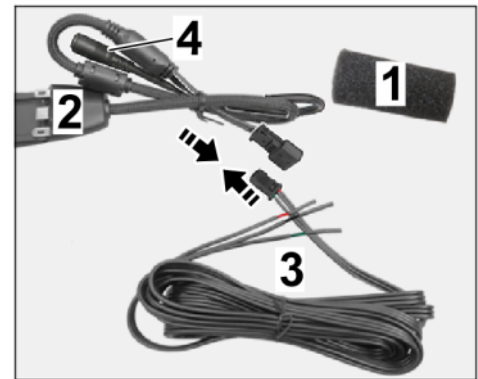

Figure 13
- 3.2.2 Connect plug connection (3-pin) (⇒ *Figure 13 -Arrows-*).